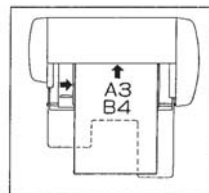

Figure 10
(3) Place the shorter edge of A3- and B4- size paper horizontally and the longer vertically (Figure 10).